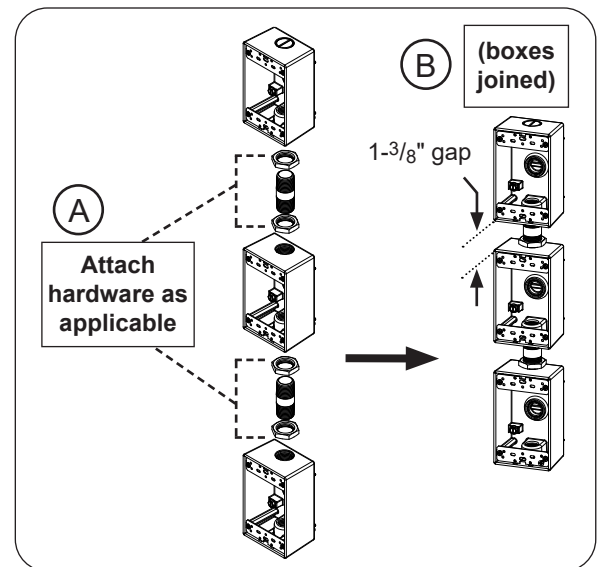

Fig. 7-2 Hardware connections
- Use the supplied hardware (nipples and nuts) to join each switch box for electrical routing. Attach hardware as applicable. See Fig. 7-2, A and B.
- Adjust the hardware to create 1- 3/8" gaps between each switch box as needed. See Fig. 7-2, B.